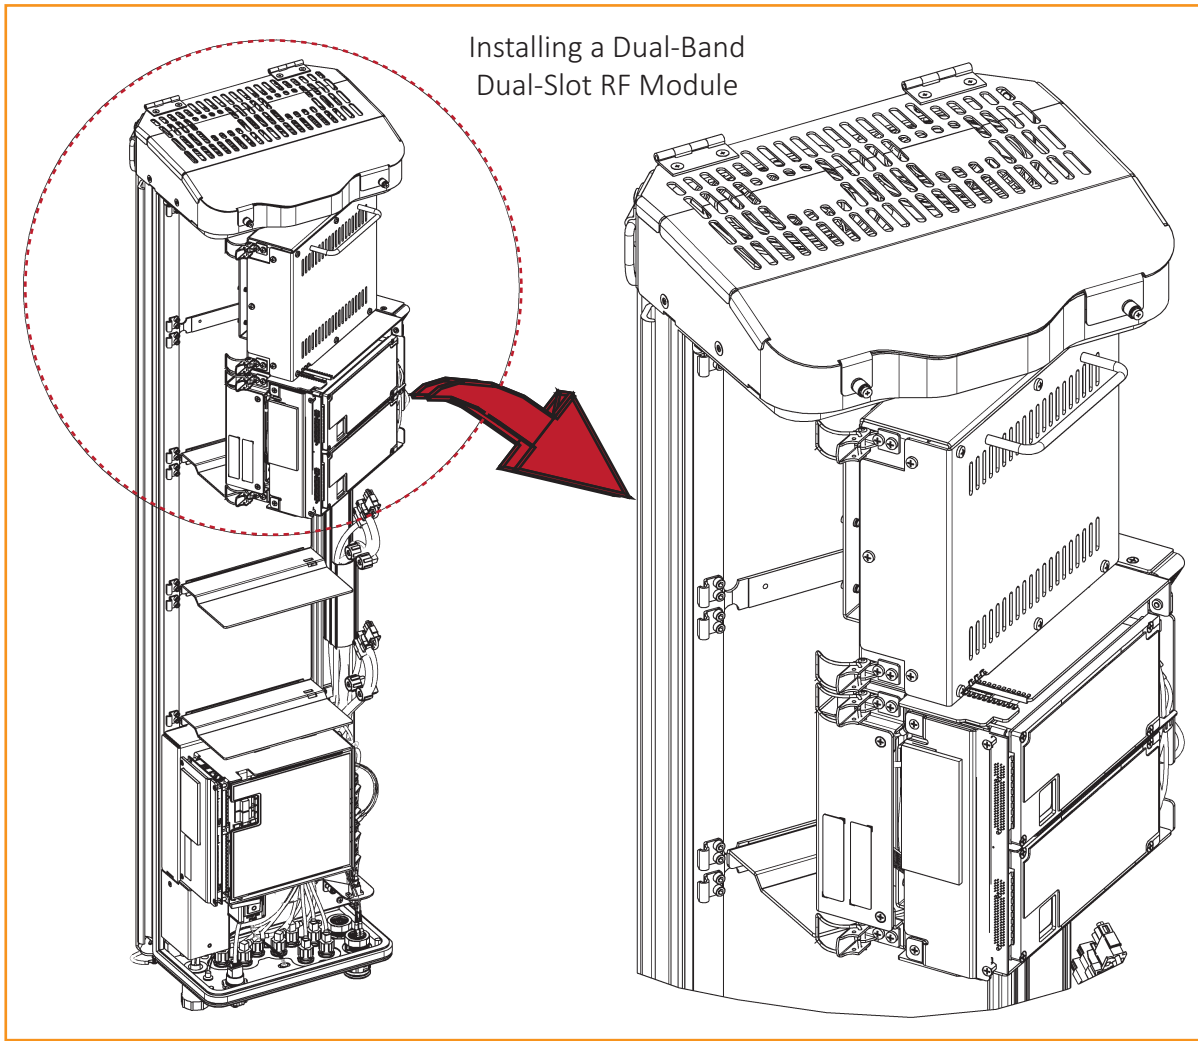

Figure 13. Installing a Dual-Bay RF Module
- Dual-Bay RF Module: Figure 13 on Page 28